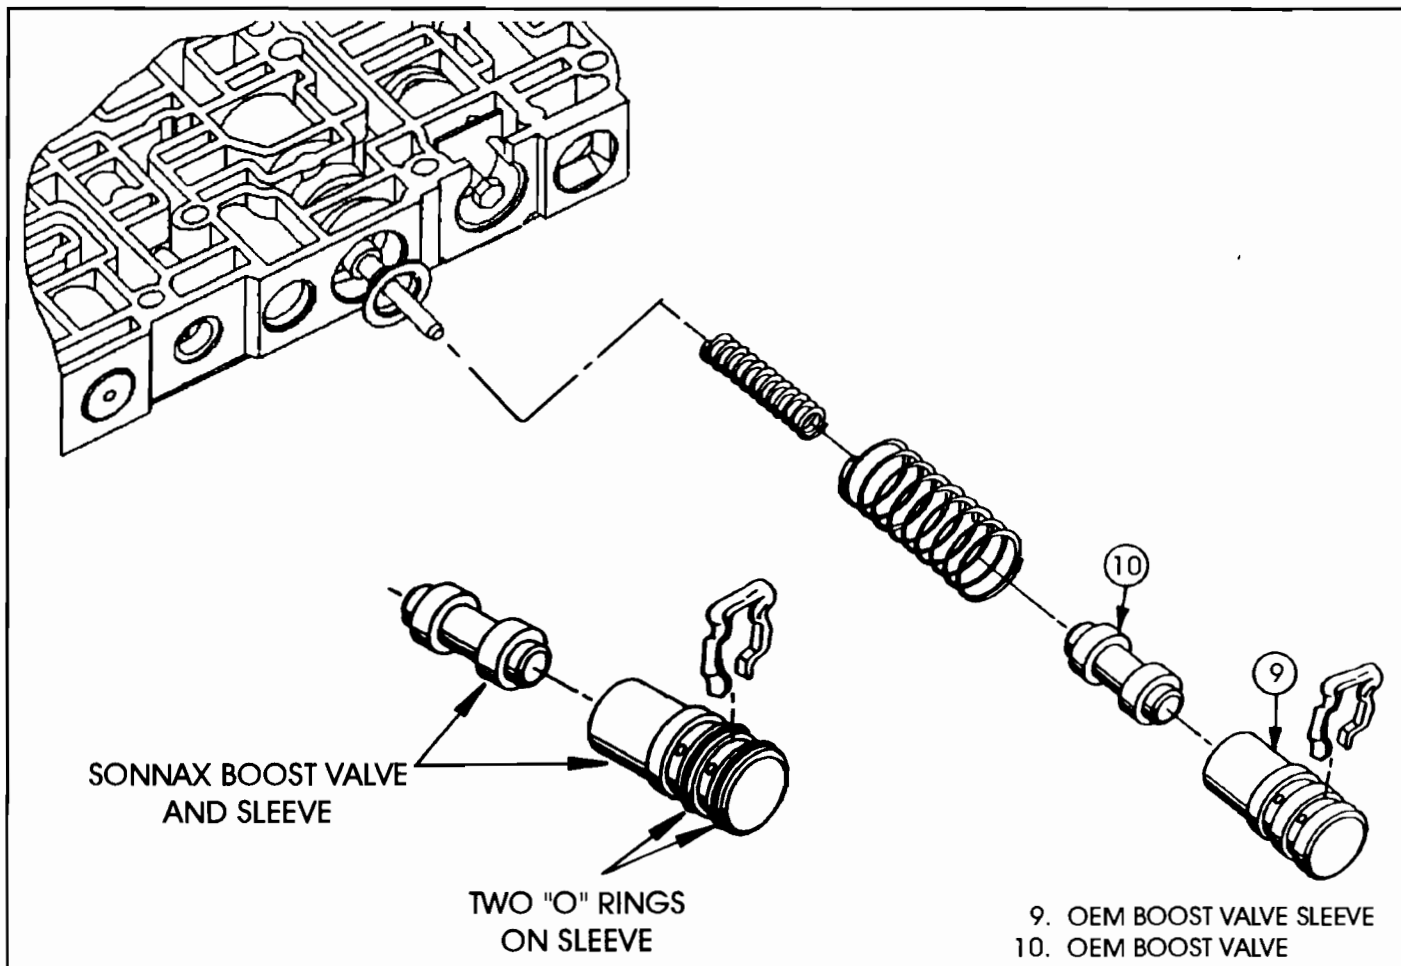

Figure 16
**CAUSE:** The cause may be, the boost valve wearing the inside diameter of the boost sleeve. When this occurs, oil that enters the T.V. orifice leaks past the boost valve and exhausts through the reverse orifice. The outside diameter of the boost sleeve also allows some leakage through the valve body (See Figure 16).
**CORRECTION:** The Sonnax replacement assembly is designed to help eliminate the problems listed above, and is available under Sonnax part number 96201-01K from your transmission parts supplier. The new parts are specially coated to eliminate excessive wear and the two "O" rings provide additional protection against leakage through the valve body, as shown in Figure 16.